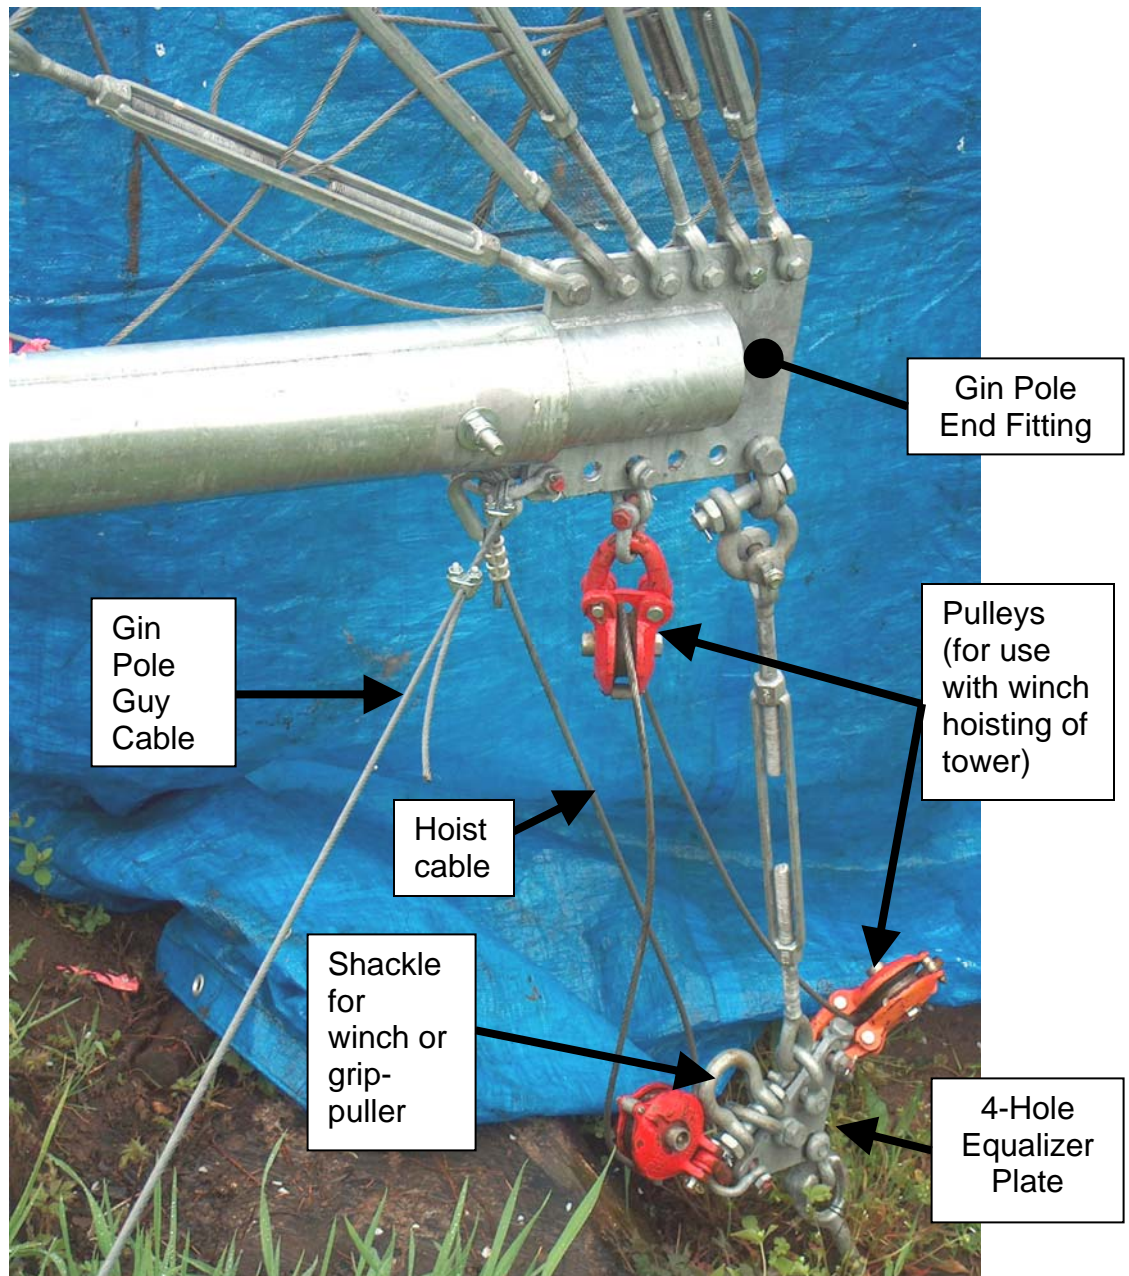

Figure 4
Insert the gin pole end fitting (6-hole) in the gin pole end section and secure with a 1/2" x 6" bolt, washers, and nut. Attach pulleys using 1/2" shackles to the bottom side of the gin pole end fitting (see Figure 4 below). Attach the jaw side of the jaw-eye turnbuckles (1/2" x 12") to the top side of the gin pole end fitting. Start with the hole closest to the center foundation and work outward. There is one turnbuckle per tower section (e.g. the 106 foot tower will have five (5) turnbuckles). Attach both gin pole guy cables to the gin pole end fitting with a 1/2" shackle, using the crimped-eye end.